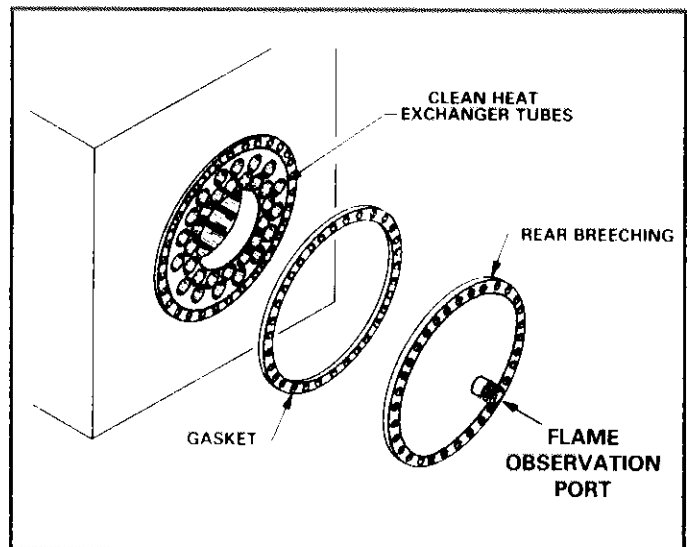

FIGURE 16
- 2 - Unscrew cap screws and remove heat exchanger breeching. See Figure 16.